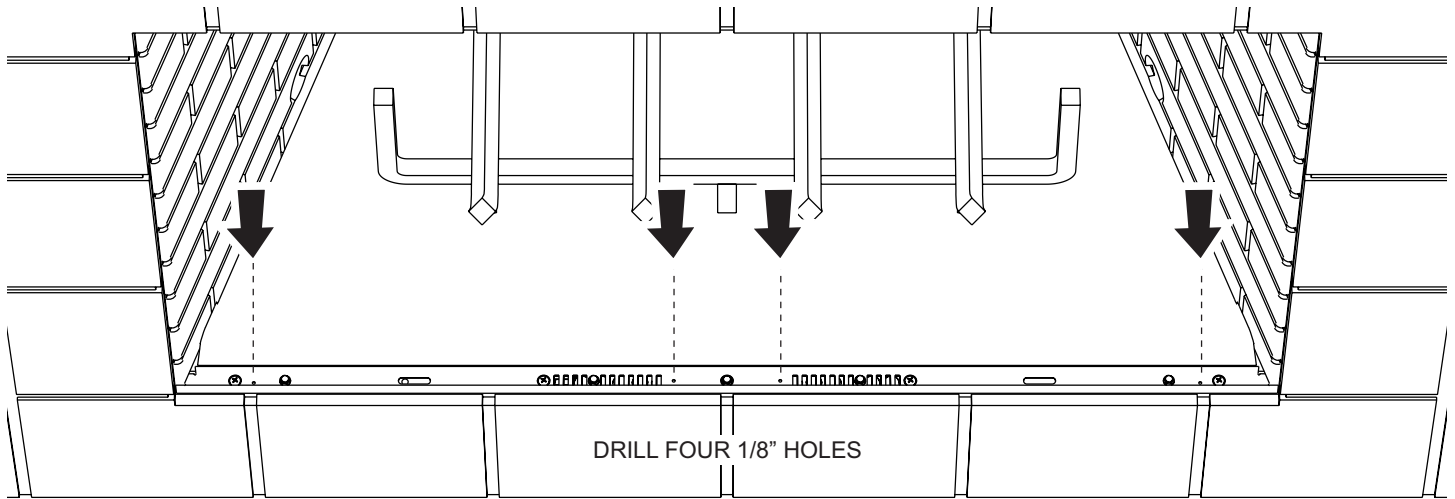

Figure 4
4. Using an electric drill, drill four (4) 1/8" holes as shown in **Figure 4**. The Bottom Door Track has guide holes for locating these drilled holes.